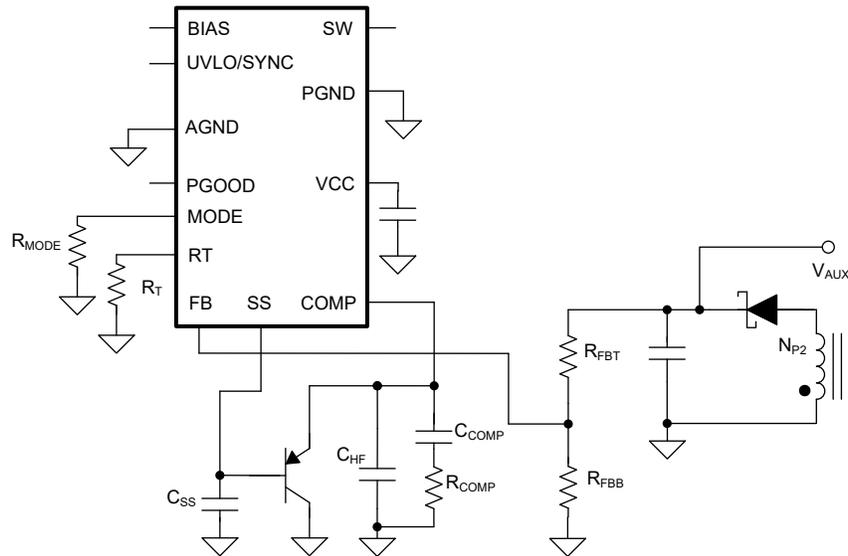

Figure 4-1. PNP Bipolar Transistor Between the Soft Start Pin and the COMP Pin
- The PNP bipolar transistor between the soft start pin and the COMP pin as shown in Figure 4-1